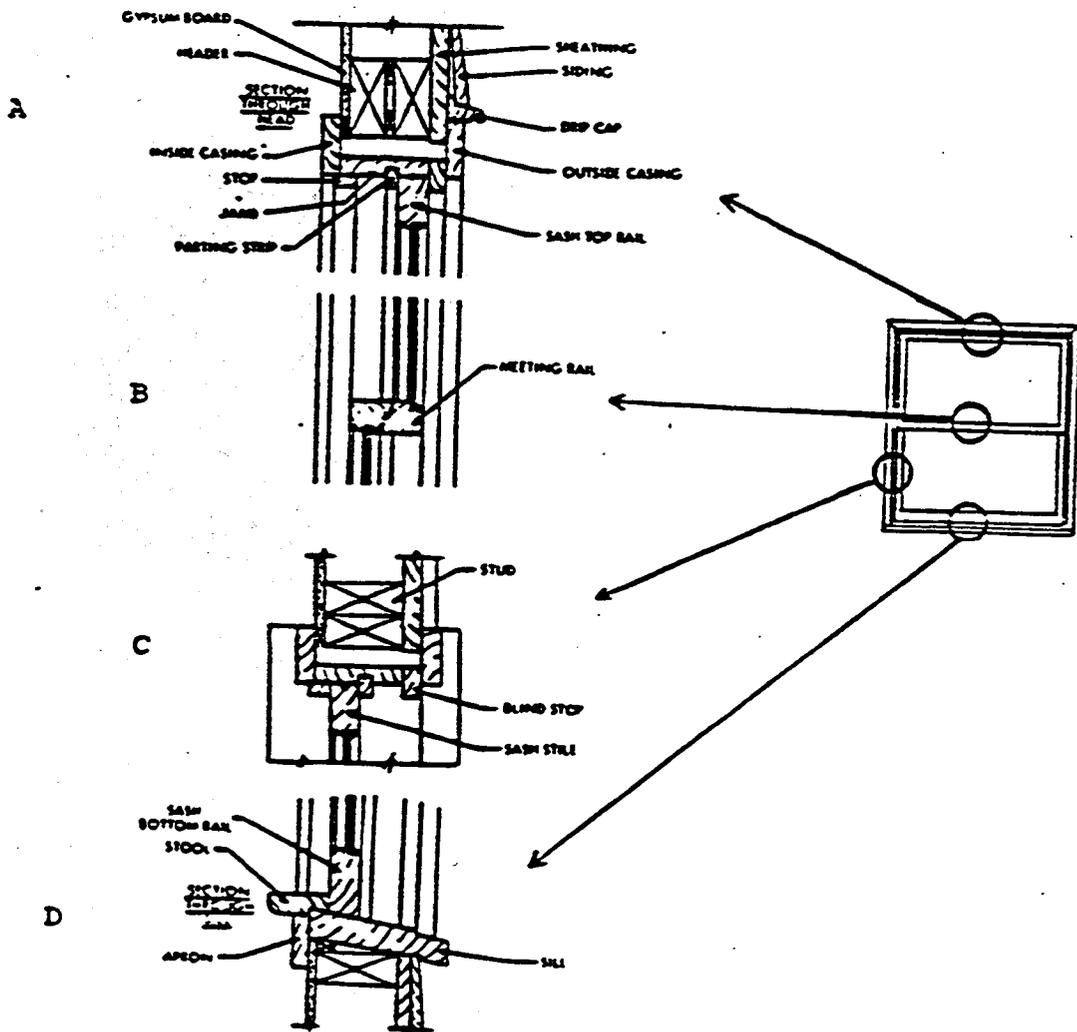

Fig 3-28. Double-hung window details.
o Double-hung window. The double-hung window is perhaps the most familiar type of window. It consists of an upper and lower sash that slide vertically in separate grooves in the side jambs or in full-width metal weatherstripping. The top of the window frame is called the head. The sides of the window are called jambs. The bottom is called the sill. Figure 3-28 shows a double-hung window with four (4) details and the location from which the detail is taken. Figure 3-28A shows a cross section view of the head. Figure 3-28B shows a cross section view of the meeting rails. Figure 3-28C shows a cross section view of the side jamb (notice that the jamb section is a plan view, looking down). Figure 3-28D is a cross section view of the sill.